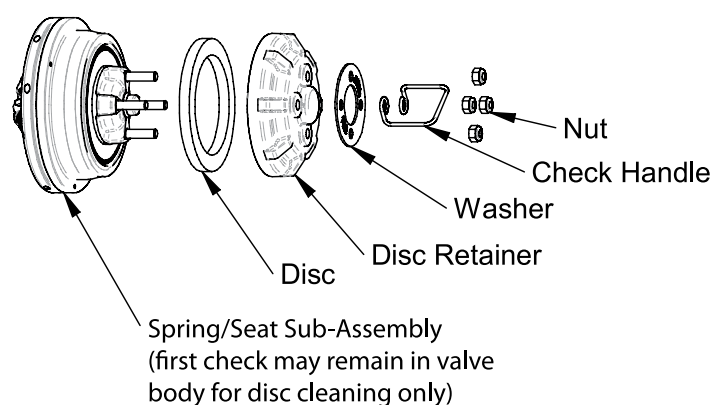

Figure 4
If only cleaning of the first check is necessary, simply remove the three (3) nuts for 2-1/2" & 3" valves/ four(4) nuts for 4" & 6" valves on the black plastic disc retainer (See Figure 4). Remove the check handle and washer and lift the disc retainer and disc out of the body. Rinse the disc with clean water or replace if necessary. The disc may be flipped over for a temporary repair, but should be replaced if damaged. Replace the disc, disc retainer, washer, handle, and nuts. **Do not over tighten locknuts.**